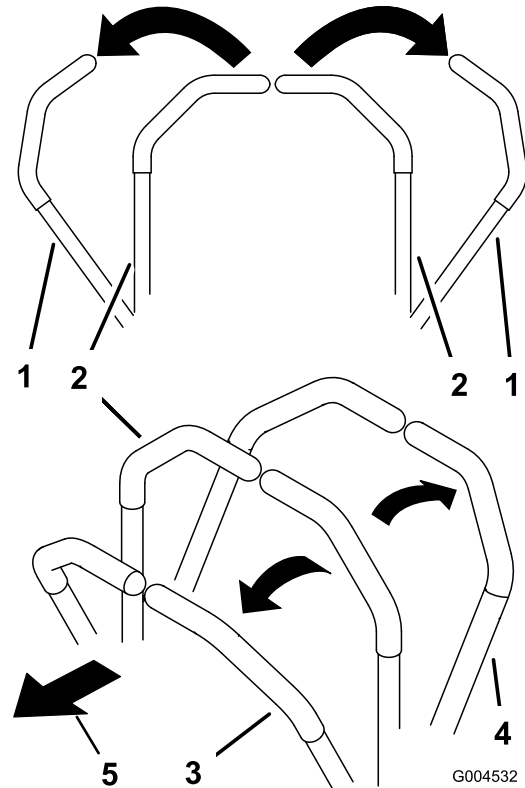

Figure 18
1. Move the motion control levers (Figure 18) out to the neutral locked position.
- To go straight forward, slowly push the motion control levers forward (Figure 18).
- To go straight backward, slowly pull the motion control levers rearward (Figure 18).
- To turn, slow the machine by pulling back on both levers and then push forward on the lever on the opposite side from which you want to turn (Figure 18).